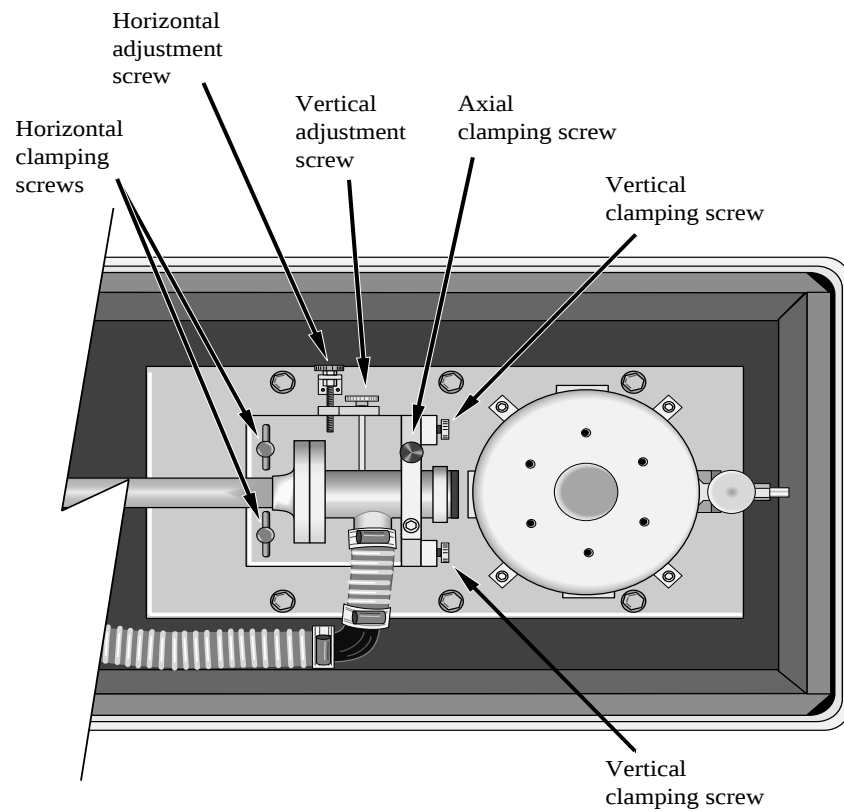

Figure 4-4. Alignment Hardware - Dewar End
- 2) Loosen the horizontal and vertical clamping screws at the dewar end (illustrated in Figure 4-4).
- 4) Adjust the horizontal position (see Figure 4-4) to maximize the sample detector signal. Note that the sample and reference signals may not reach their maxima simultaneously. If so, ignore the reference detector signal and adjust the alignment to maximize the sample detector signal. Adjust the horizontal position past the peak in each direction far enough to make sure there is a single response peak. If there is a single peak, leave it at the center of the peak. If there are multiple peaks, leave the horizontal alignment at the center of the group of peaks.
- 6) Adjust the vertical position (see Figure 4-4) to maximize the sample detector signal, in the same way as for the horizontal alignment.